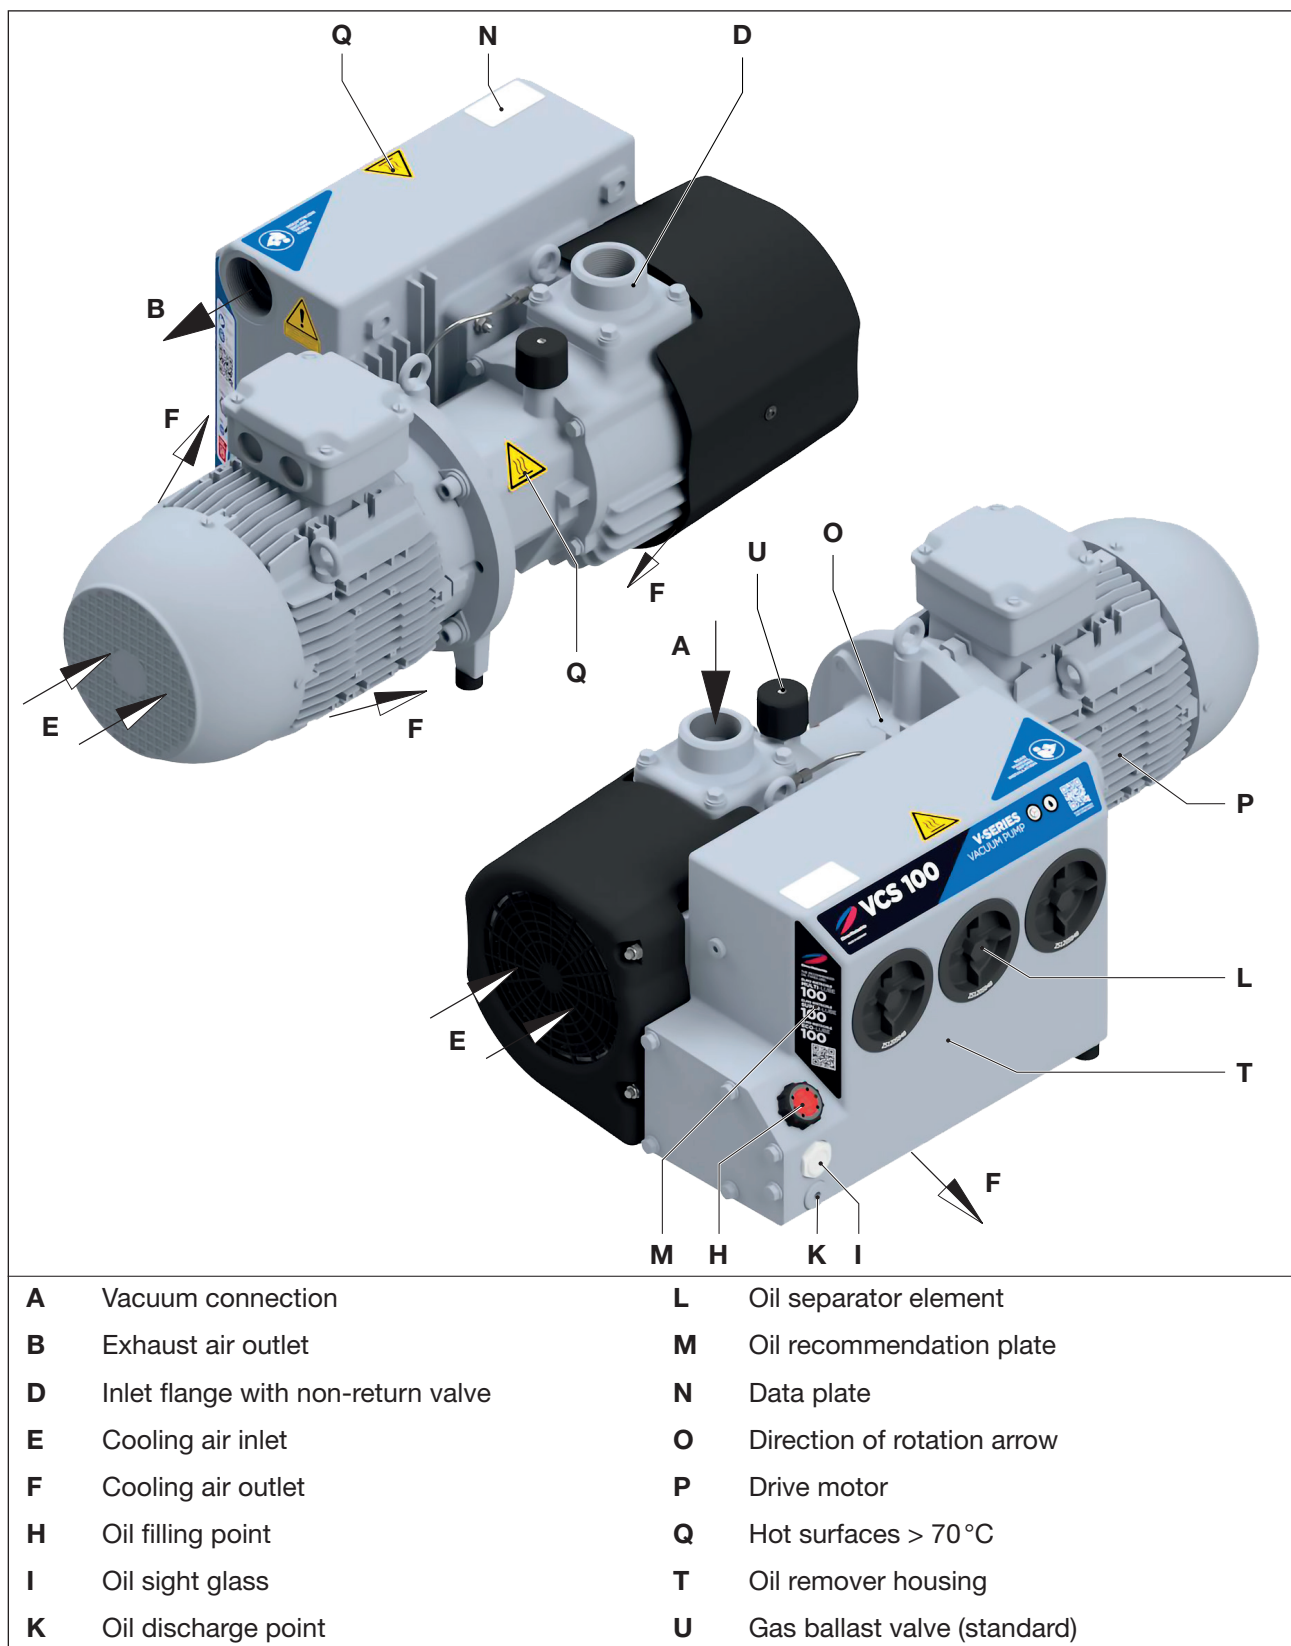

Fig. 2 Vacuum pump V-VCS 100 / 150
When the pump is at operating temperature, a standard gas ballast valve (Fig. 2/U) prevents the condensation of low quantities of water vapour inside the pump. The water vapour compatibility may vary depending on the pump version (see Info I200).
- Suction flange (Fig. 2/D), Oil filling point (Fig. 2/H), Oil sight glass (Fig. 2/I), Oil drain (Fig. 2/K), Gas ballast (Fig. 2/U) and de-oiler housing (Fig. 2/T) must be easily accessible.
The vacuum connection (Fig. 2/A) is located on the suction flange (Fig. 2/D).
- a) Remove the blind plugs on the suction connection (Fig. 2/A) and exhaust air outlet (Fig. 2/B).
- b) Connect the pipes with the vacuum connection (Fig. 2/A).
- c) The exhausted air can be blown out through the exhaust air outlet (Fig. 2/B) or conducted away using a hose or pipeline.
- Check the lubricating oil level through the oil sight glass (Fig. 2/I) and top up, if necessary.
- Fill the lubricating oil (for suitable types see chapter 7.6 “Lubricating Oil”) via the oil filling point (Fig. 2/H) up to the upper edge of the sight glass (Fig. 2/I).